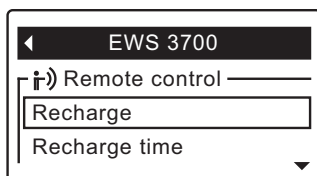

FIG. 77
2. Press the remote's SELECT (O) button to display the device menu (See Figure 77).